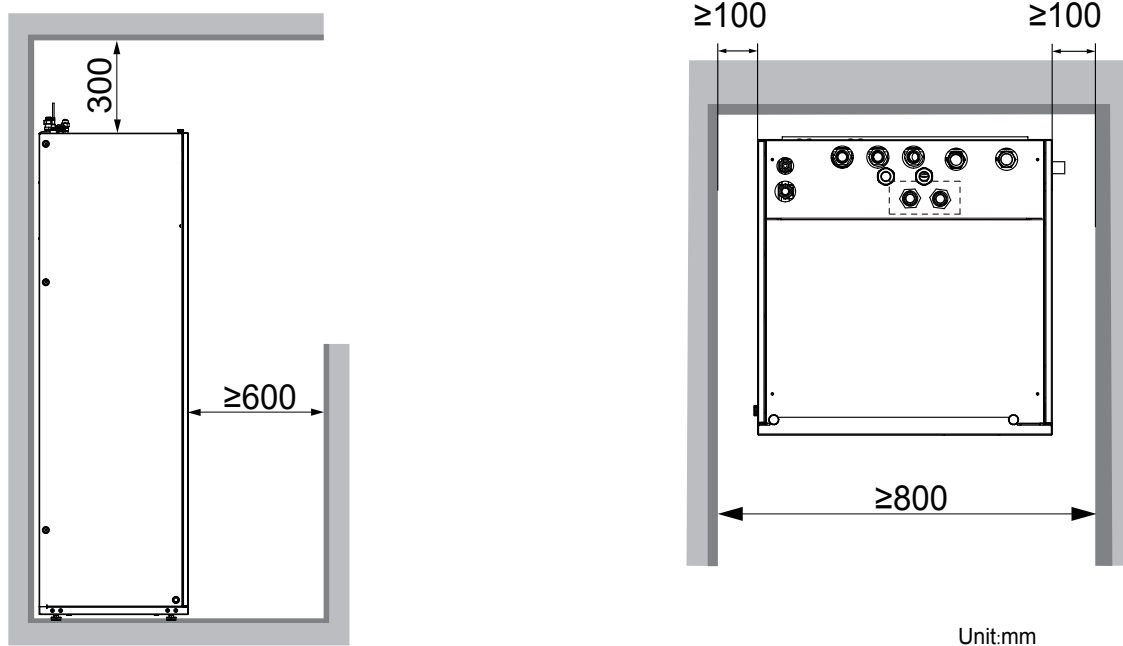

Fig.4-2
- The space around the unit is adequate for serving (See Fig. 4-2).